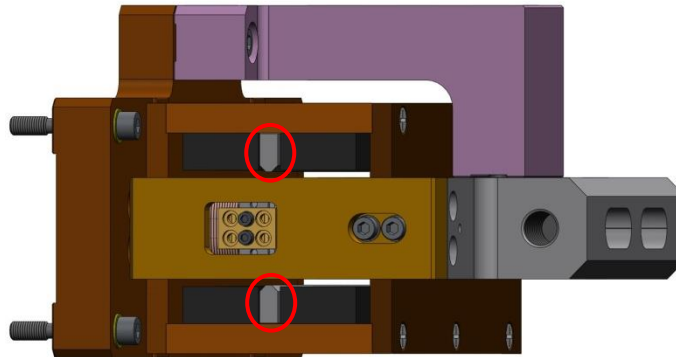

Figure 4.30. Actuator Stops installed. These help prevent “crashes” of Bobbin into magnets during HAM ISI operation.
- Slide (2) **Actuator Stops** (D070534) into **Field Assembly**, between rows of magnets as shown in Figure 4.30. Start hardware, snug, and torque to final spec.